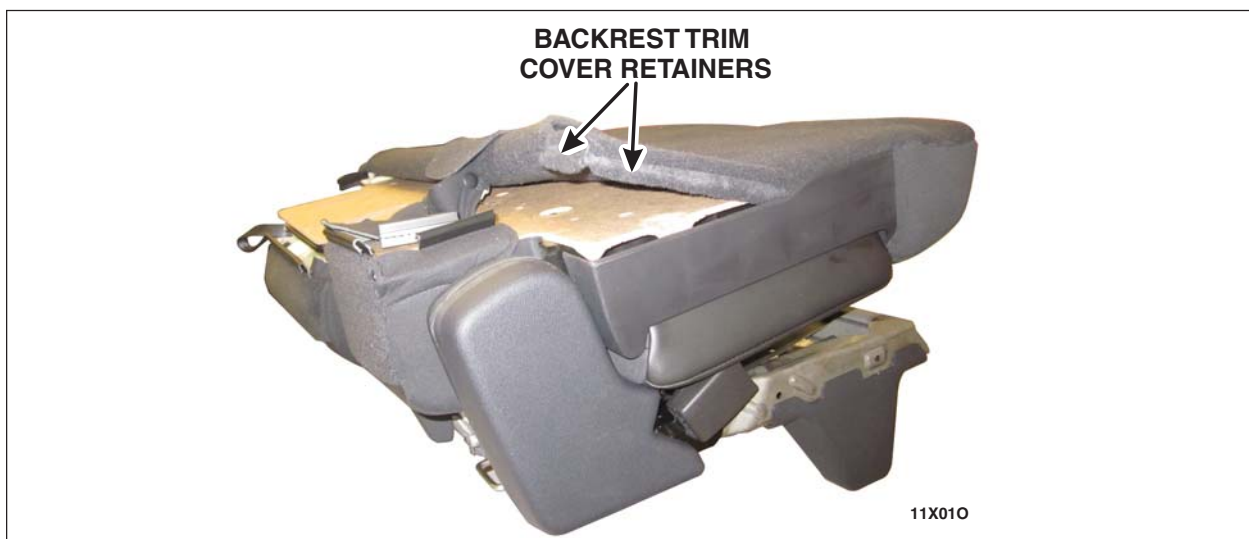

FIGURE 7
17. Lift up on the inboard side of the seat backrest trim cover to disengage the backrest trim cover retainers. See Figure 7.
52. Engage the backrest trim cover retainers. See Figure 7.